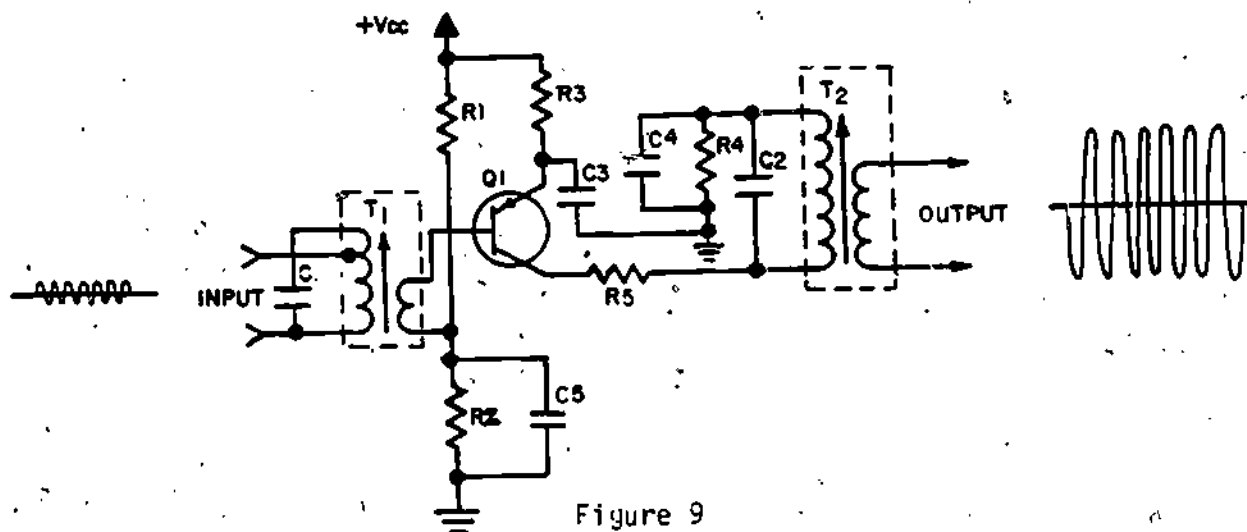
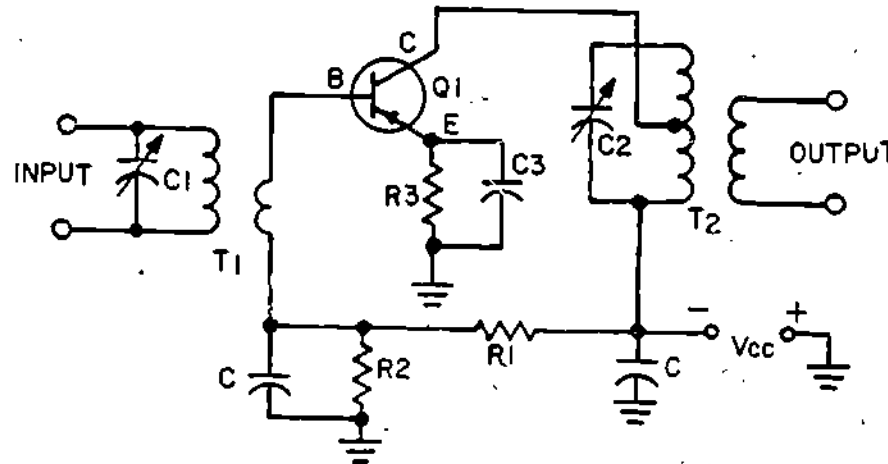

Figure 9
Figure 10
11. You are familiar with the circuit diagram of a typical IF amplifier. Now let's look at the IF amplifier circuit that you will study on the NIDA trainer. The circuit is shown in Figure 9.
At first glance, this circuit may appear totally different to you from the typical common-emitter IF amplifier stage you have been studying which is shown again in Figure 10.
However, on closer inspection, you will see that the diagrams in Figures 9 and 10 are basically the same common-emitter IF amplifier circuit. The types of coupling transformers at T1 and T2 are different between the figures (inductive vs capacitive tuning). Also, the V_{CC} source voltage is applied to the emitter in Figure 9, whereas it is applied to the collector in Figure 10. However, these differences do not change the circuit operation or the function of the components.
The NIDA IF amplifier circuit shown in Figure 9 is basically different from the typical common-emitter IF amplifier circuit shown in Figure 10.